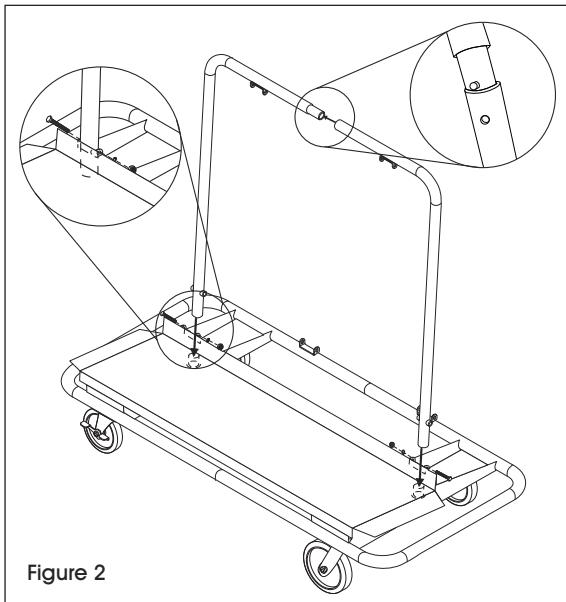

Figure 2
2. Insert left frame over socket behind deck lip. Secure using long bolt, washer and locknut. Connect right frame to left frame. Circular tab will click into place. Attach right frame to deck in same manner as left frame. (See Figure 2)